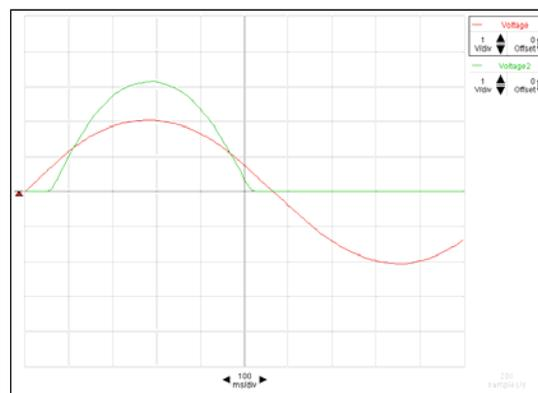

Fig. 10: example of oscilloscope image in step 5.
5. Adjust the sampling rate in Data Studio to 200 Hz. Use a scope to verify that both voltage signals are being read correctly. The two signals, as seen in Fig. 10, show the voltage across the frequency generator (red, V_1) and the voltage across the 330 Ω load resistor (green, V_2).